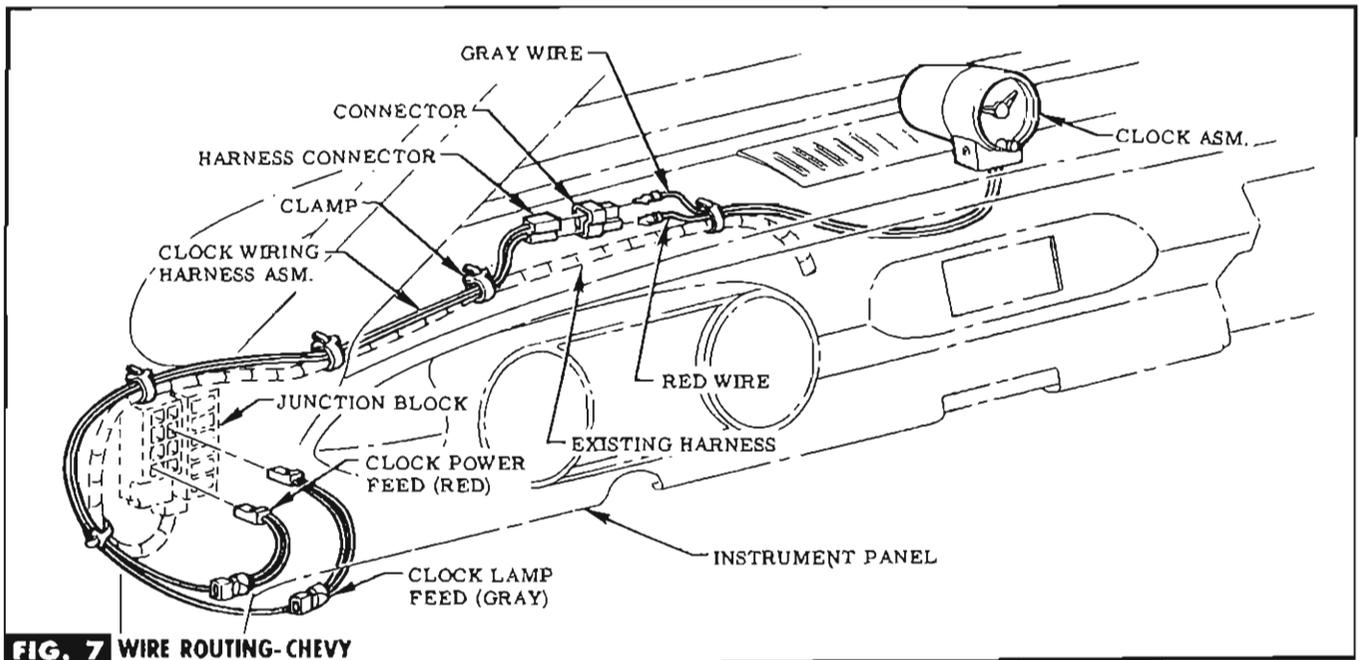

FIG. 7 WIRE ROUTING-CHEVY
STEP 9 (CHEVY ONLY) PLUG RED WIRE CONNECTOR INTO RECEPTACLE IN JUNCTION BLOCK MARKED "CLK". SEE FIG. 7. **NOTE** If receptacle is occupied, remove existing wire & plug into jumper wire.
STEP 10 (CHEVY ONLY) PLUG GRAY WIRE CONNECTOR INTO RECEPTACLE IN JUNCTION BLOCK MARKED "PNL. LPS". SEE FIG. 7. **NOTE** If receptacle is occupied, remove existing wire & plug into jumper wire.